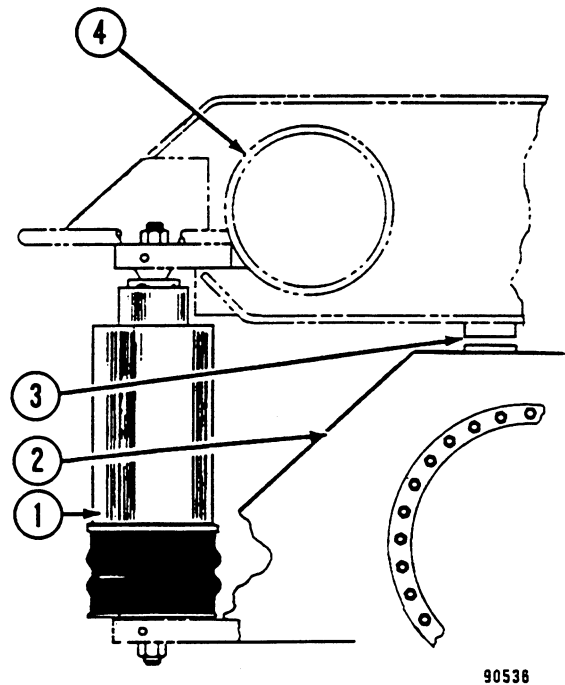

FIGURE 3-2. REAR SUSPENSION BLOCK PLACEMENT
2. With suspension piston fully extended, place a block between frame and axle pad. Refer to Figure 3-2.